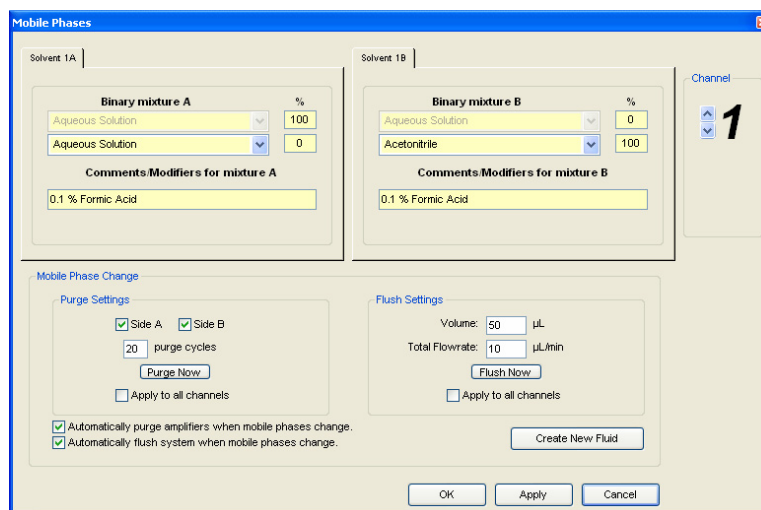

Figure 3-3. Mobile Phases Window – Advanced
- step 8** Click the **More...** button to present the purge and flush settings (Figure 3-3).